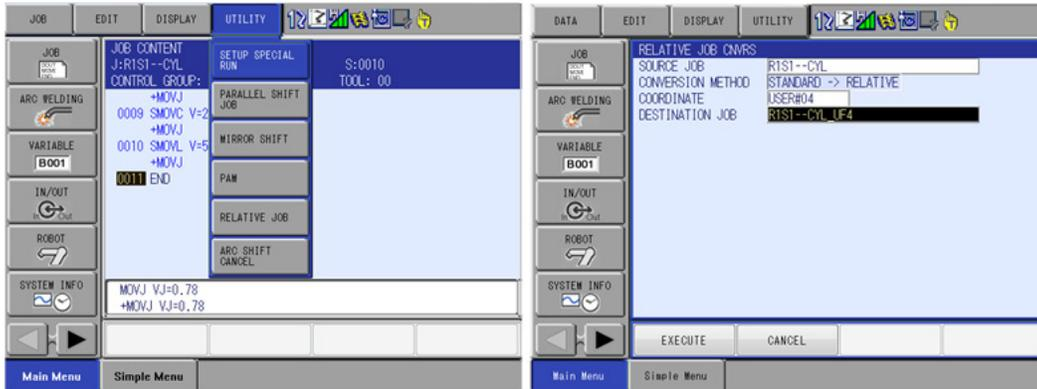

Figure 4: Convert Standard Job to Relative Job
- (1) Convert job to relative job on the user frame just created before programming points. Any positioner locations captured while in a pulse job will not be recorded in angle. Only positioner locations captured in a relative job will be recorded in angle. See Figure 4 for relative job conversion screenshots.